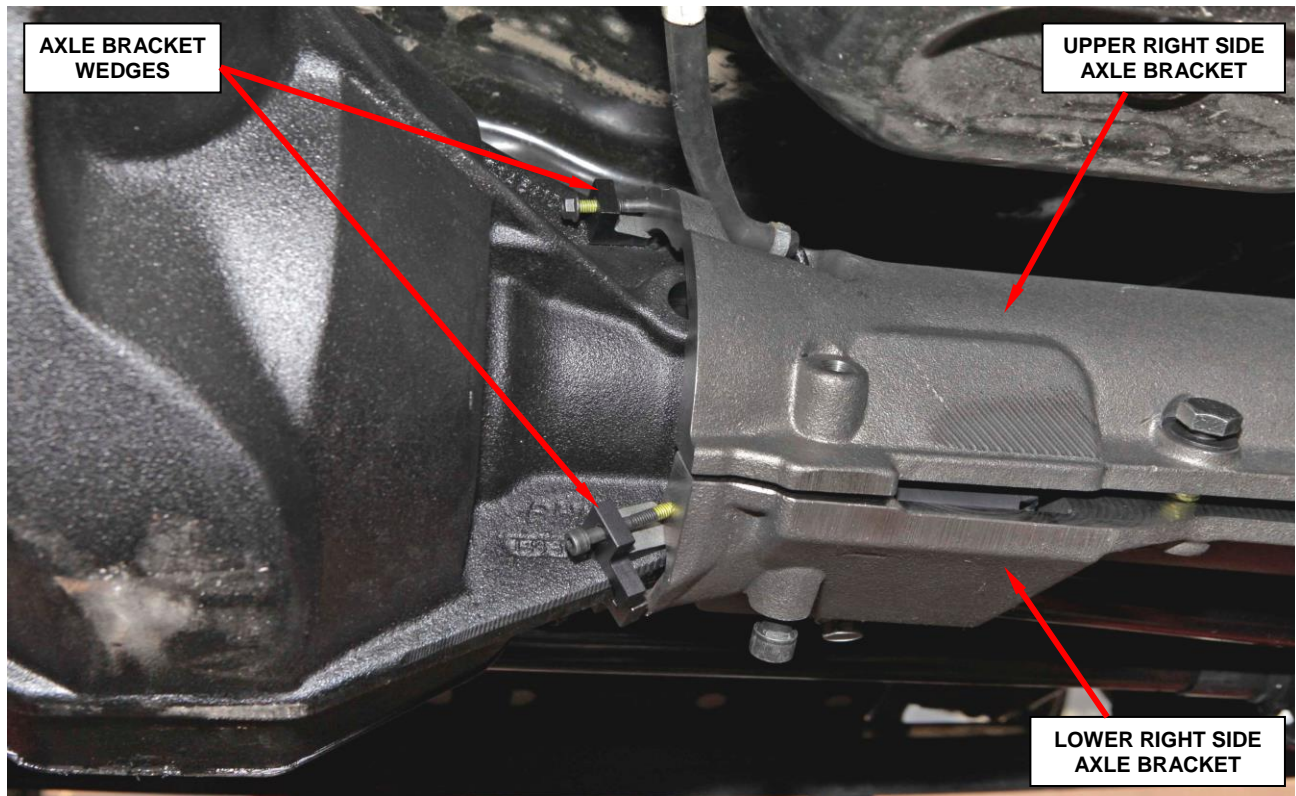

Figure 12 – Install Axle Bracket Wedges
f. Install the three axle bracket wedges. Hand tight only (Figure 12).